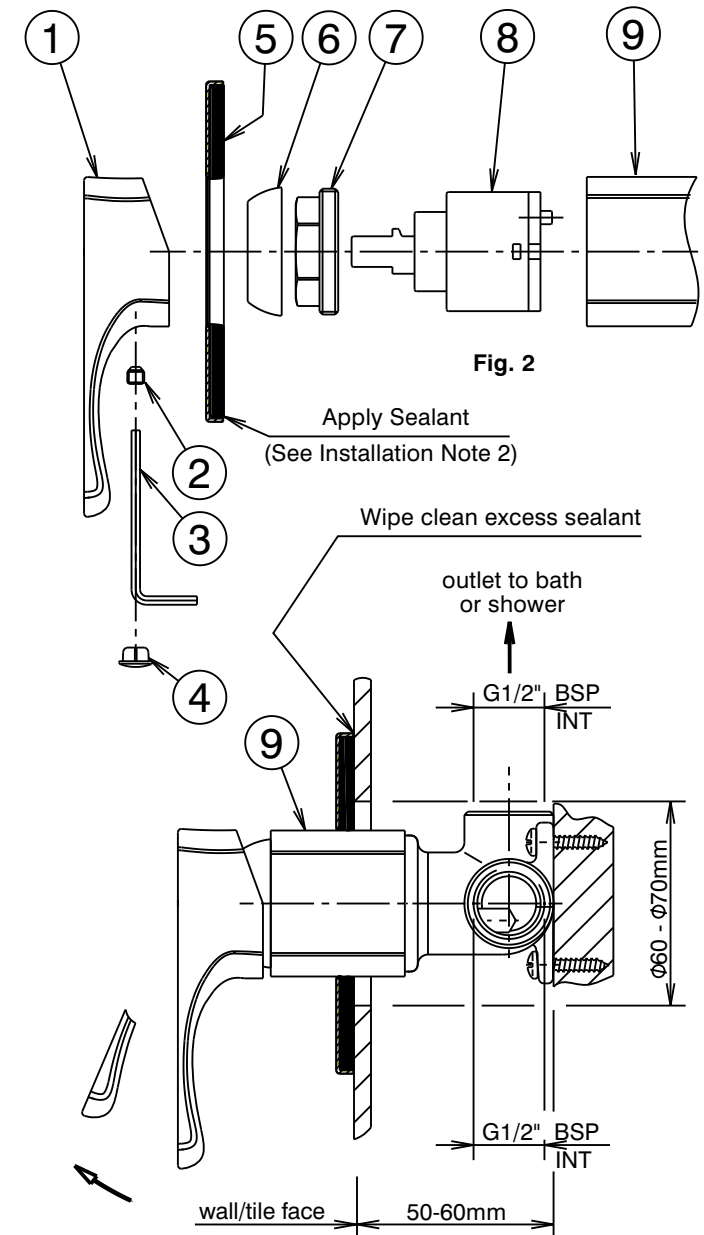

Fig. 1
### Installation (Fig. 1 & 2)
- 3) Carefully slide the cover plate (5) over the mixer body (9), with the **dorf** marking at the bottom. Push the cover plate (5) firmly against the wall/tile face. Wipe clean any excess sealant from the chrome surfaces & the wall/tile face (See Fig. 1).
- 4) Fit handle (1) taking care that it is pushed fully onto cartridge stem, then tighten grub screw (2) using the 2.5mm allen key (3). Fit plug (4), taking care not to damage the decorative finish.